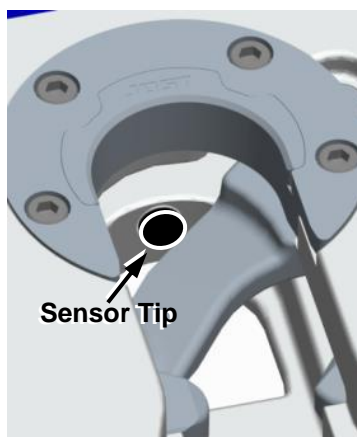

FIGURE 12
- Use aerosol parts cleaner and a rag to remove grease from the sensor tip (see figure 12).
- Inspect the sensor tip for obvious impact damage (see figure 12). Confirm the white plastic shipping cap has been removed.
- The sensor tip must protrude from the casting (see figure 12).